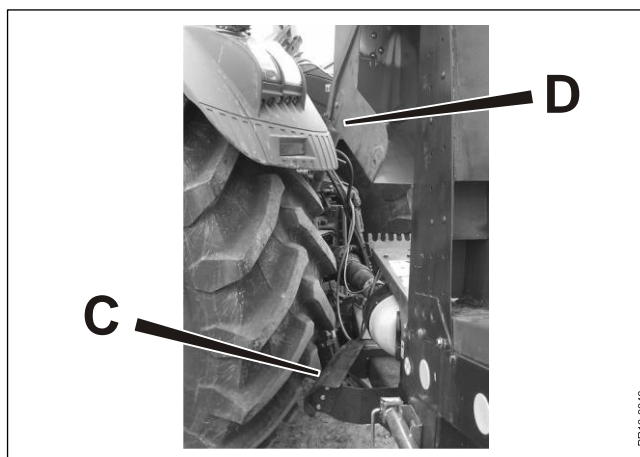

Fig. 2-17
**Fig. 2-17** The machine must be placed in the transport position to fit the pads and ensure that the PTO shaft is properly installed. Turn the tractor so that there is a maximum of 70 degrees between the tractor and drawbar. While doing this, make sure that the PTO shaft does not get blocked or the chute hits the tractor **D**; the PTO shaft must be min. 30 mm from the block. If this is not achieved, you must readjust the drawbar.